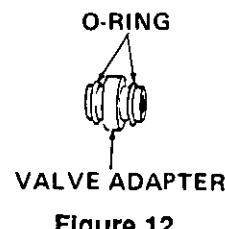

Figure 12
5. Install two O-rings (H) on the valve adapter (G). Refer to Figure 12.